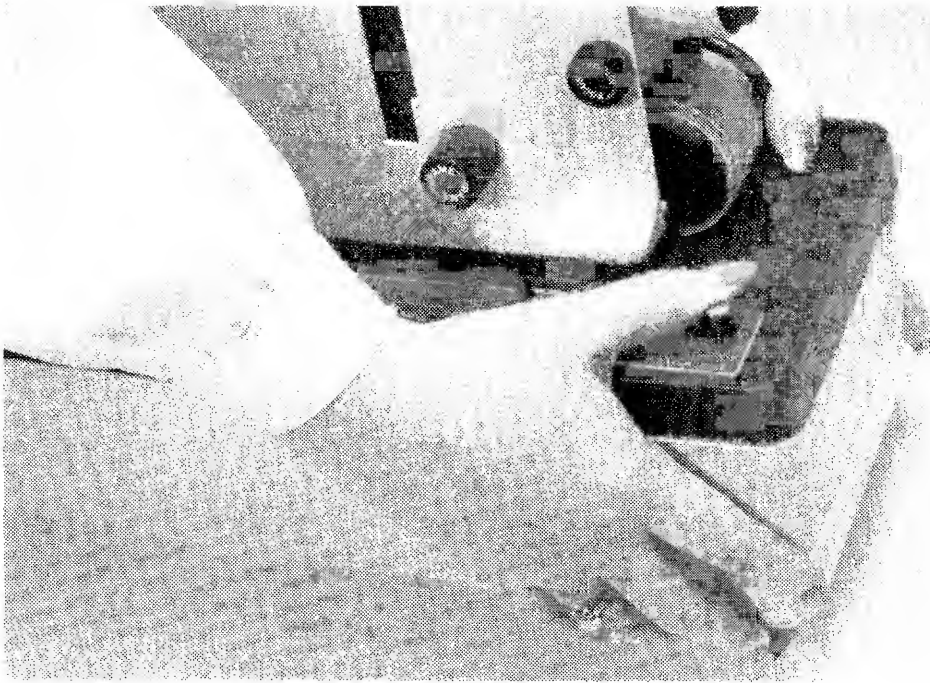

FIGURE 5
5. To raise or lower the picture on the screen, press the elevation button completely down on the control panel while you raise or lower the projector (See Figure 5).